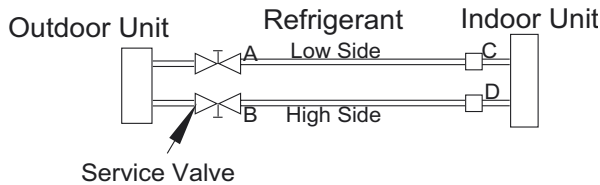

Fig. 19 —Service Valve
1. Completely tighten all flare nuts and connect manifold gage charge hose to a charge port of the low side service valve (see Fig. 19).